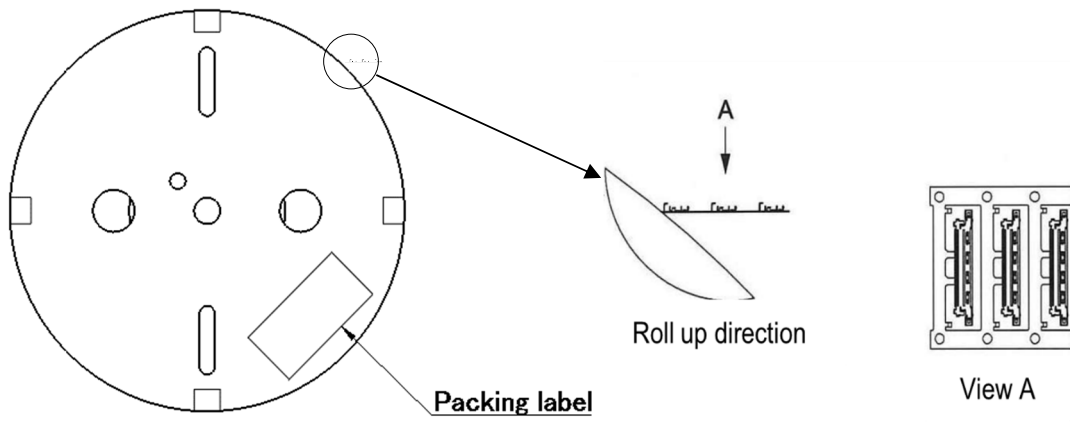

Fig.1
- (1) Coiling of shell to reel follow as shown Fig.1.
- (2) Coiling QTY. is 6000 in reel.